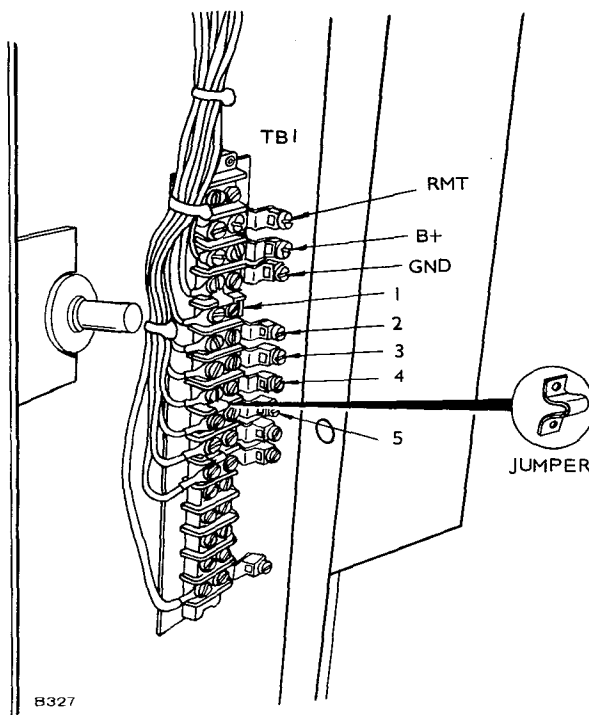

FIGURE 3. LOCATION OF TERMINAL BLOCK TB1
6. Remove the external wires from TB1 and TB6, then remove the terminal blocks from mounting. See Figure 3.
5. Remove external wires from TB1, TB2, and TB6 (if all present), then remove these terminal blocks from mounting. See Figure 3.